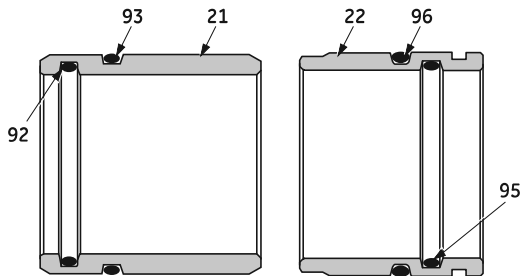

Figure 4 - Optional "O" ring arrangement
- B. Loosen locknut (46) then remove the clevis (35) and the locknut (46).
- C. Loosen and remove capscrew (41) and remove diaphragm case (42) and diaphragm (40).
- D. Using a deep socket, loosen and remove lock nut (45) and washer (44).
- E. Remove piston (43) and spring (39) and inspect all components.
8.3 Valve Body (Refer to Figures 4 and 16)
- E. The components which should come out with the shaft (19) are: the packing (17), packing box ring (23 or 100), spacer tube (20) and upper guide bushing (21).
Note: The spacer tube (20) and upper guide bushing (21) may remain in the body. They should be removed. The spacer tube (20) can only be removed by pulling it out the bonnet end of the body. The upper guide bushing (21) may be pushed through the body after removing the plug or pulled through the bonnet end of the body. On valves designed for use on slurry or viscous service, the upper guide bushing has an inner "O" ring (92) and an outer "O" ring (93) and the lower guide bushing has inner "O" ring (95) and outer "O" ring (96) (Refer to Figure 4).